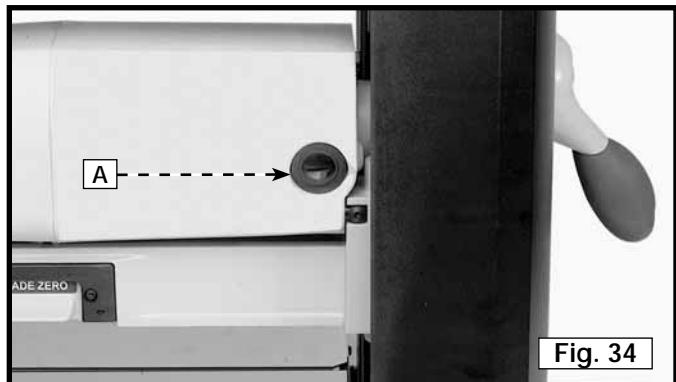
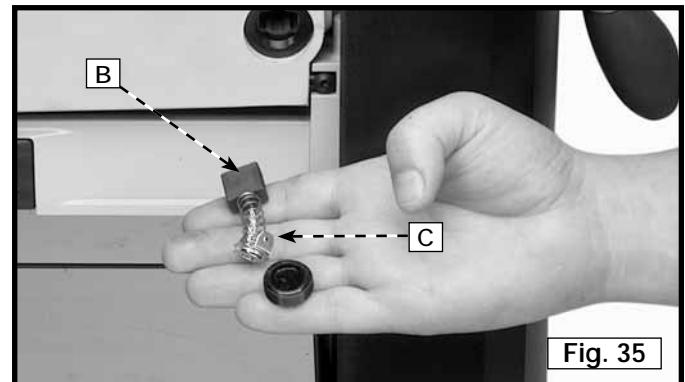

Fig. 34
Fig. 35
The brush holders, one of which is shown at (A) Fig. 34, are located on the motor housing opposite each other. One of the removed brushes is illustrated in Fig. 35. When the carbon (B) on either brush is worn to 3/16" (4.8 mm) in length or if either spring (C) or shunt wire is burned or damaged, replace both brushes. If the brushes are found serviceable after removing, reinstall them.